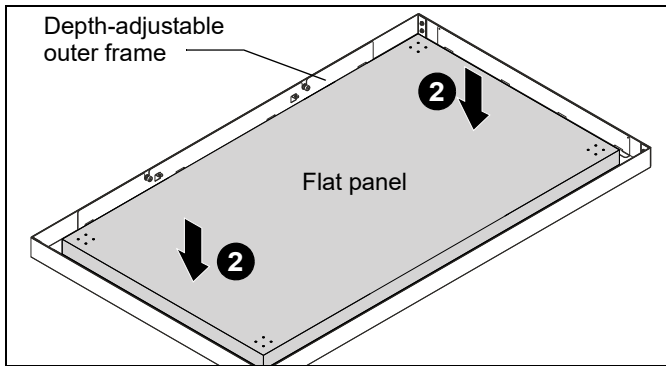

Figure 7
- Carefully lay flat panel face down into the depth-adjustable outer frame. (See Figure 7)